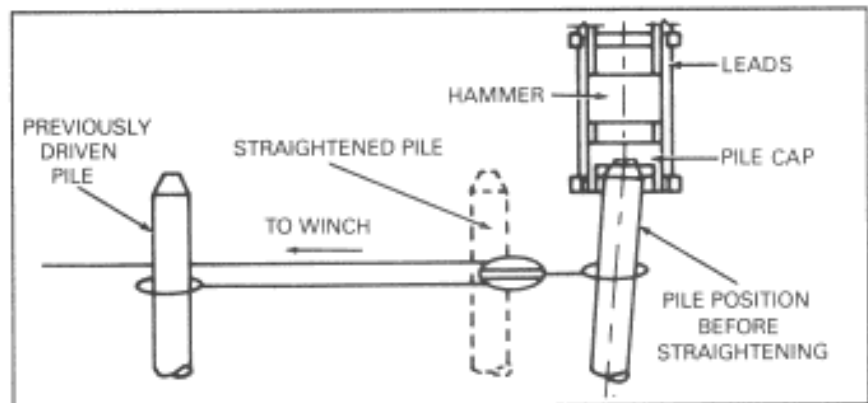

Figure 11-3. Realigning with a block and tackle
- A block and tackle (Figure 11-3), with the impact of the hammer jarring the pile back into line.